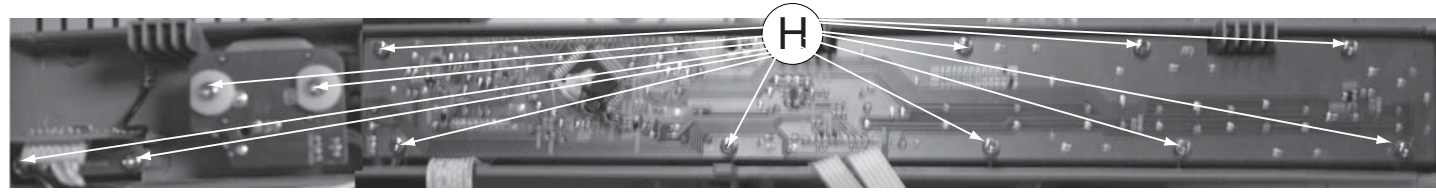

Figure 8
1) Loosen 11 screws "H" at the back pancele as shown in figure 8